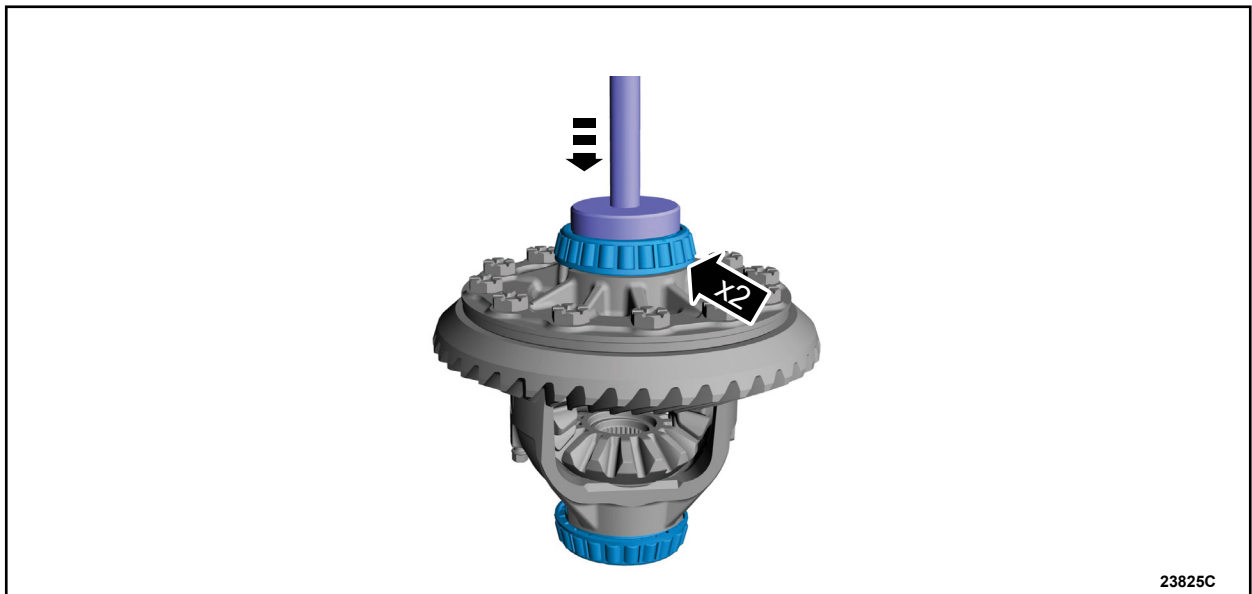

FIGURE 3
9. Install the new differential bearings. See Figure 3.